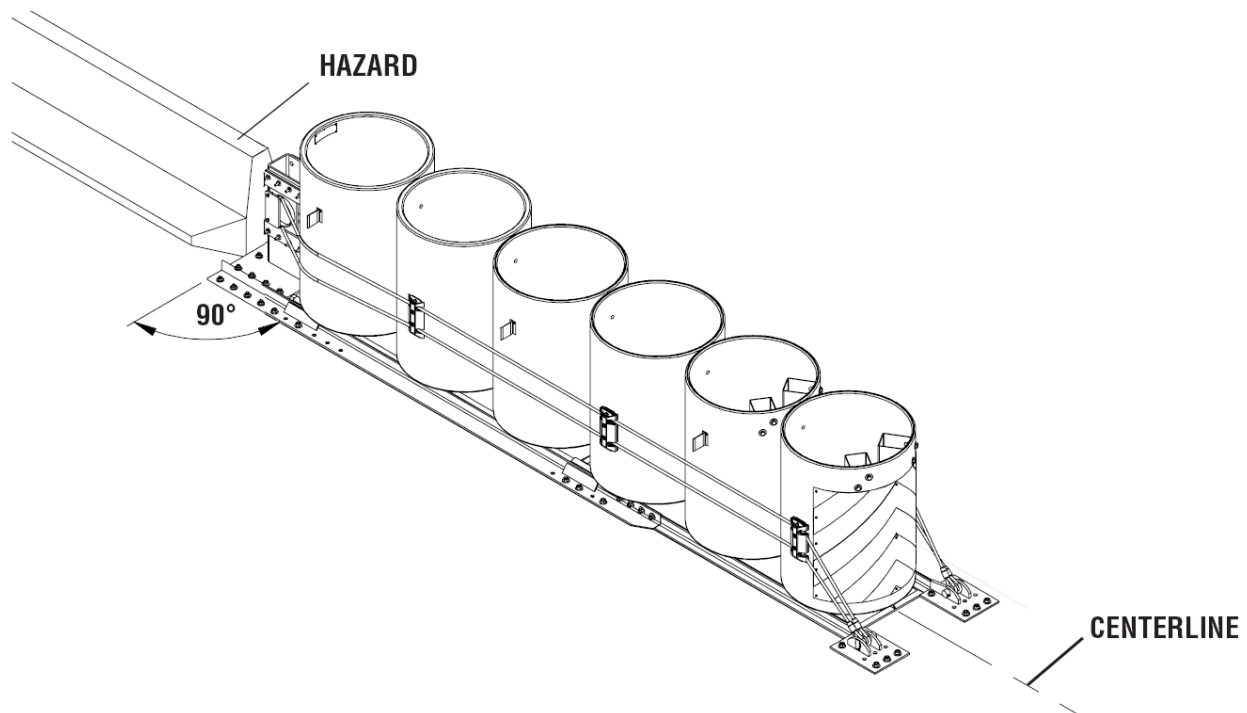

Figure 5
2) Determining the Basepoint and Centerline (Figure 5)
Extend a chalk line from the basepoint, perpendicular to the roadside obstacle face, or as determined by the project engineer to a distance greater than the maximum length of the REACT 350® Narrow (refer to the drawings provided). This chalk line will become the centerline for the REACT 350® Narrow (Figure 5).